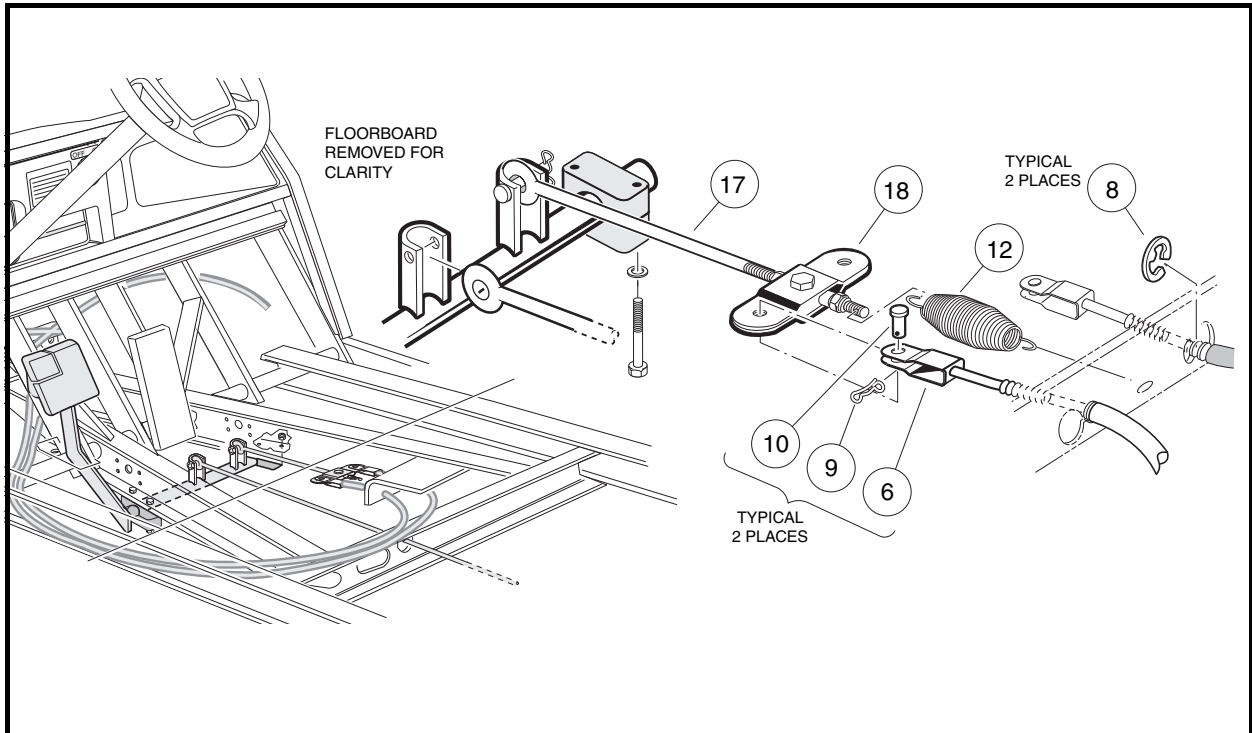

Figure 6-36 Brake Equalizer
3. Remove cotter pin (9), clevis pin (10), and E-clip (8) from brake cable at equalizer (18) (**Figure 6-36, Page 6-21**).
1. Place brake cable through frame mounting hole behind equalizer and install E-clip (8) on cable housing (Figure 6-36, Page 6-21).